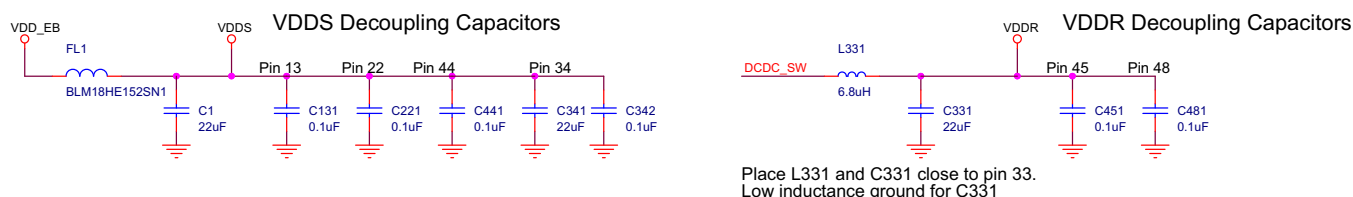

Figure 6. CC1312R 7x7 Decoupling Capacitors
- The decoupling capacitor should be placed close to the pin it is supposed decouple (see Figure 6)